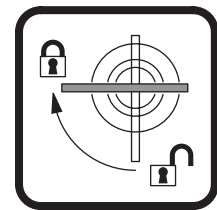

Figure 2: Quarter-turn fasteners
3. See Figure 2. Align each of the two clamp brackets with two mounting points in the base. Insert the quarter-turn fasteners into the base and turn all levers a full 90° clockwise to lock.